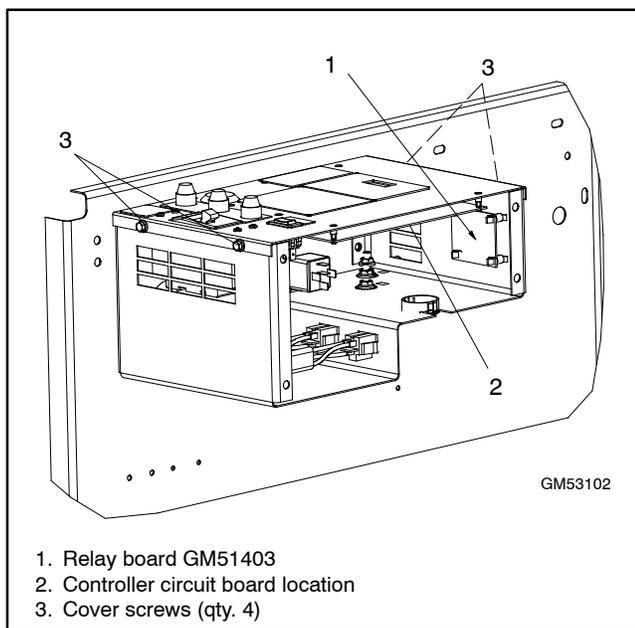

Figure 4-9 Relay Board Location (inside controller junction box)
The generator set may be equipped with an optional relay board, which contains the K1 common fault relay and K4 auxiliary run relay. See Figure 4-9 for the relay board location inside the controller junction box.
1. Access the controller junction box to locate the relay board. See Figure 4-9.